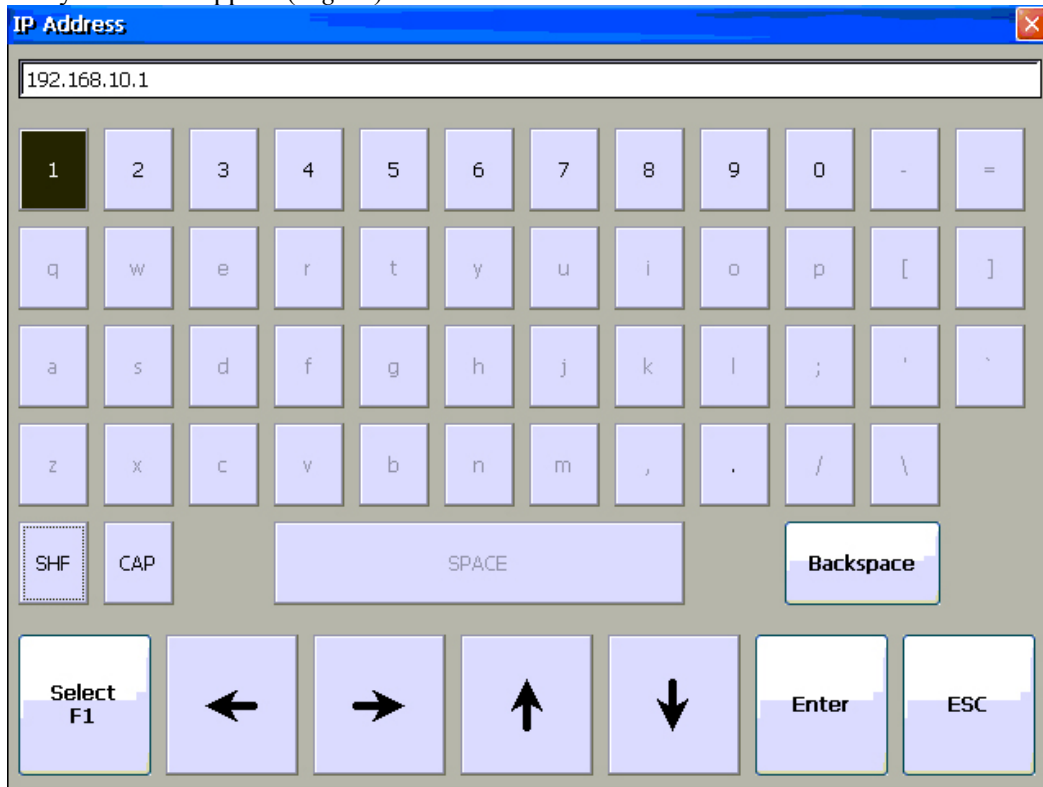

Fig 30
40. A keyboard will appear (Fig 30).